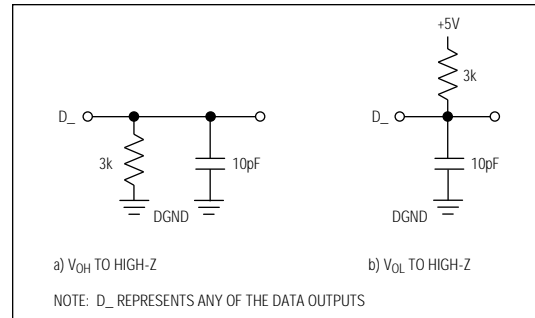

Figure 2. Load Circuits for Data-Hold Time Test
**Note 7:**  $t_7$  is defined as the time required for the data lines to change  $0.5\text{V}$  when loaded with the circuits of Figure 2.